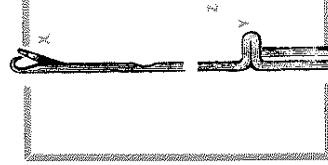

Fig. 8
Fig. 8 illustrates the cylinder or plain needles. These fit into the grooves of the cylinder and are raised by the cams and lowered at the foot (Z) to form the stitch at the top or hook of the needle; (X) is the latch of the needle and (Y) is the heel.